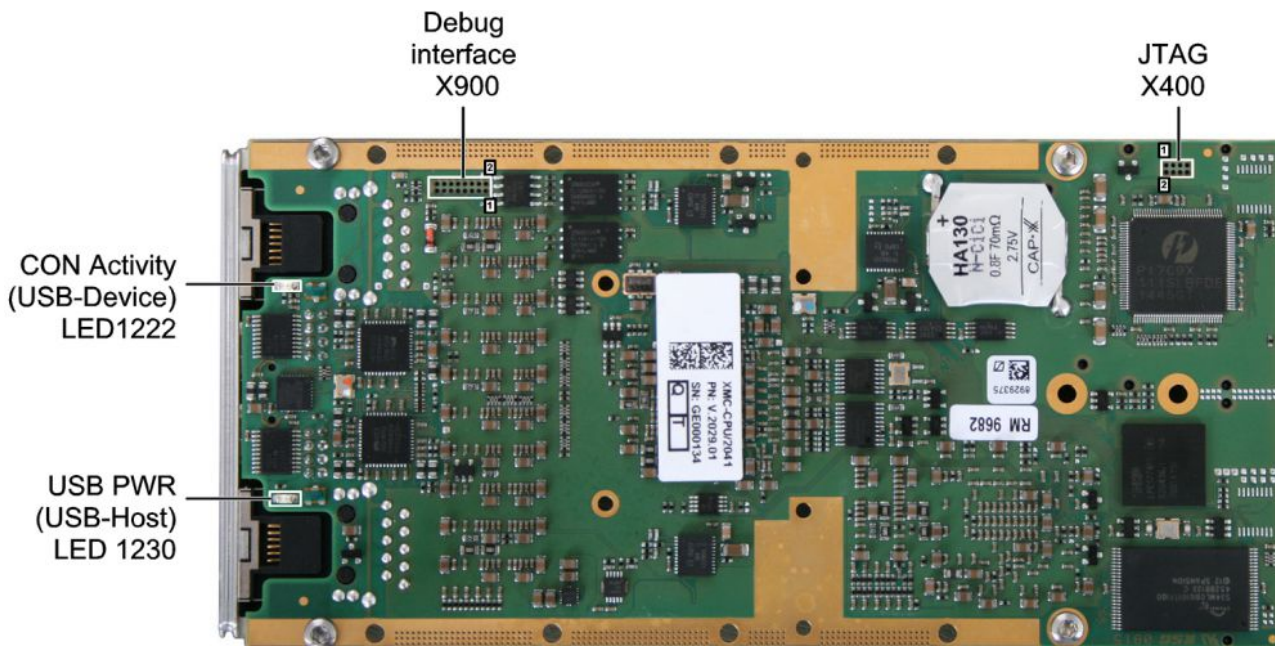

Figure 3: PCB bottom view
2.3	Figure 3 new
See also page 16 and following for signal assignments of the connectors. The JTAG connector and the Debug interface connector have to be connected on the PCB bottom side of XMC-CPU/2041 (see Figure 3 for the position of the connectors and pins).